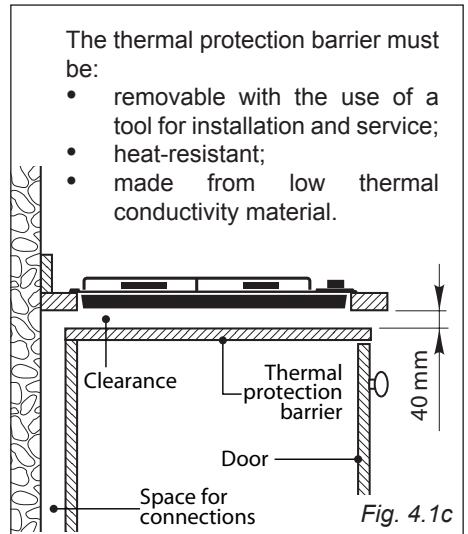

Fig. 4.1c
- If the cooktop is installed directly above an oven (which does not have a cooling fan motor) a thermal protection barrier must be installed below the base of the cooktop as indicated in fig. 4.1c.
- If the cooktop is installed directly above an oven (which does not have a cooling fan motor) or if its base is accessible through a cupboard or drawer space after installation, a thermal protection barrier must be installed below the base of the cooktop as indicated in fig. 4.1c.
- If the base of the cooktop is accessible through a cupboard or drawer space after installation, a thermal protection barrier must be installed below the base of the cooktop as indicated in fig. 4.1c.